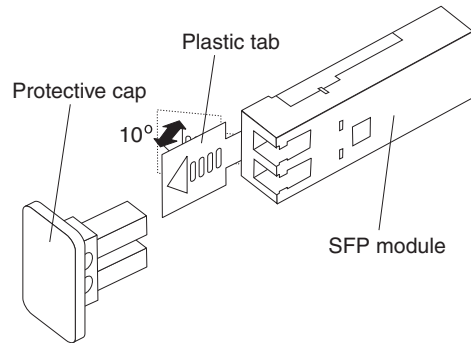

Figure 53. Unlocking the SFP module latch - plastic variety
- For SFP modules that contain plastic tabs, unlock the SFP module latch by pulling the plastic tab outward 10°, as shown in Figure 53.